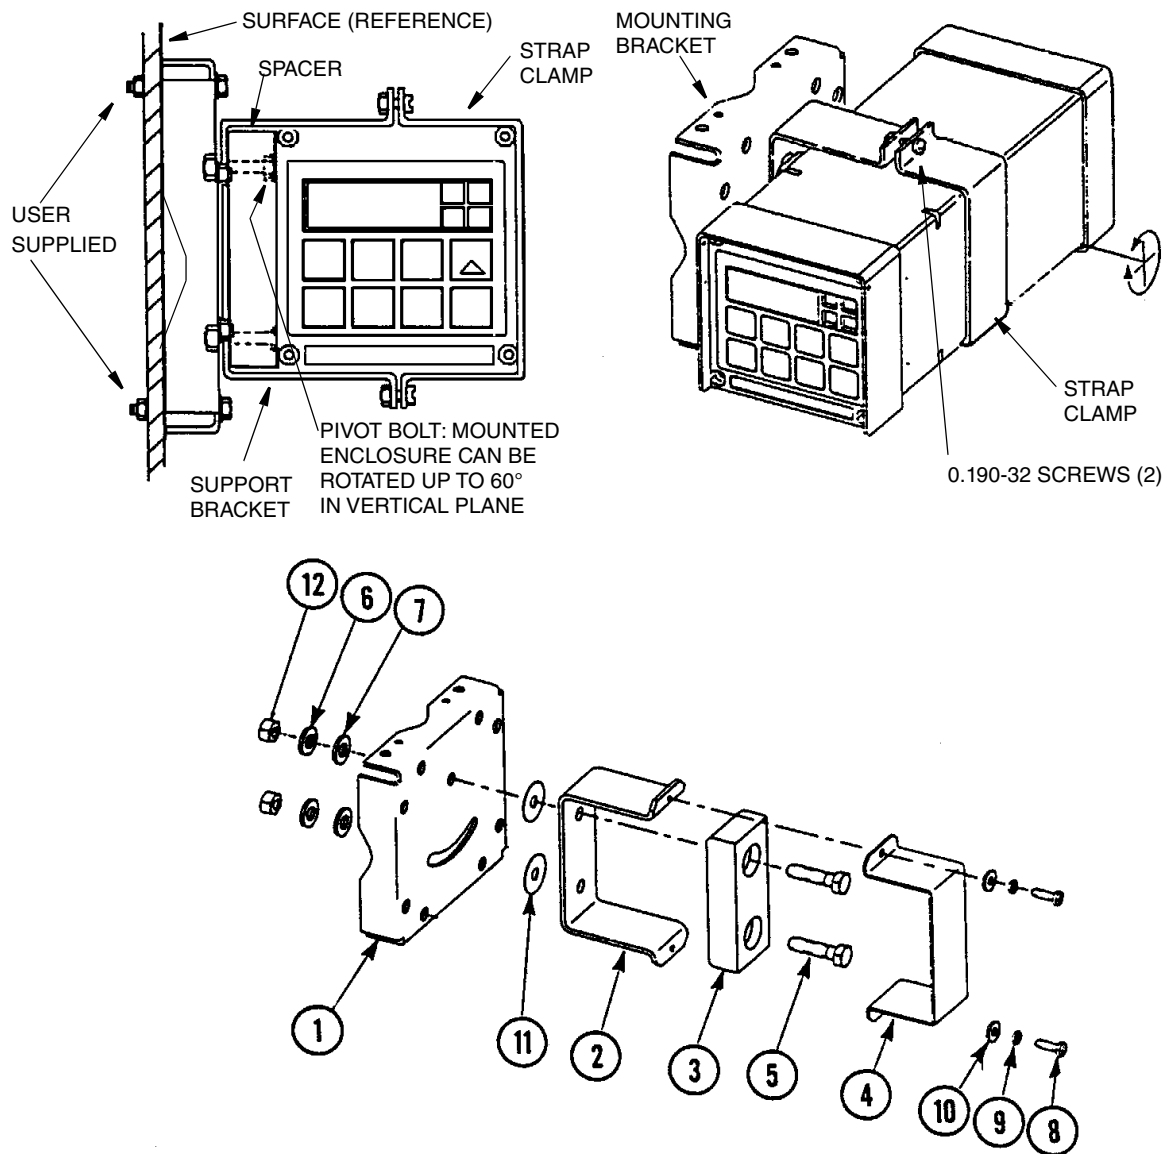

Figure 8. Metal Enclosure - Fixed Mount
2. Referring to Figure 8, use mounting bracket as template for drilling four holes into mounting surface. Notice that holes in mounting bracket are 8.74 mm (0.344 in) in diameter. Do not attach mounting bracket to surface at this time.
- a. Place hex bolts (5) through spacer (3) into support bracket (2).
- b. Slide nylon washers (11) over bolts (5).
- c. Slide bolts through universal mounting bracket (1) and fasten assembly together with hardware designated 7, 6, and 12.
- d. Attach universal mounting bracket (1) to wall.
4. Slide Analyzer into support bracket and slide strap clamp (4) onto Analyzer. Using two screws, nuts, and washers, attach strap clamp to support bracket to secure Analyzer.